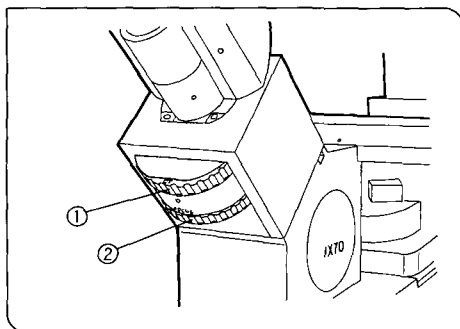

Fig. 73
**4** How to Use the CT (Bertrand Lens) Turret (Fig. 73)
- To use the CT turret ①, turn the knurled ring with a finger to select the setting corresponding to the indication (O-CT-O-S). When selecting the setting, make sure the turret is correctly positioned at a click-stop. (Set the magnification selector knob on the IX70 microscope frame to 1X.)